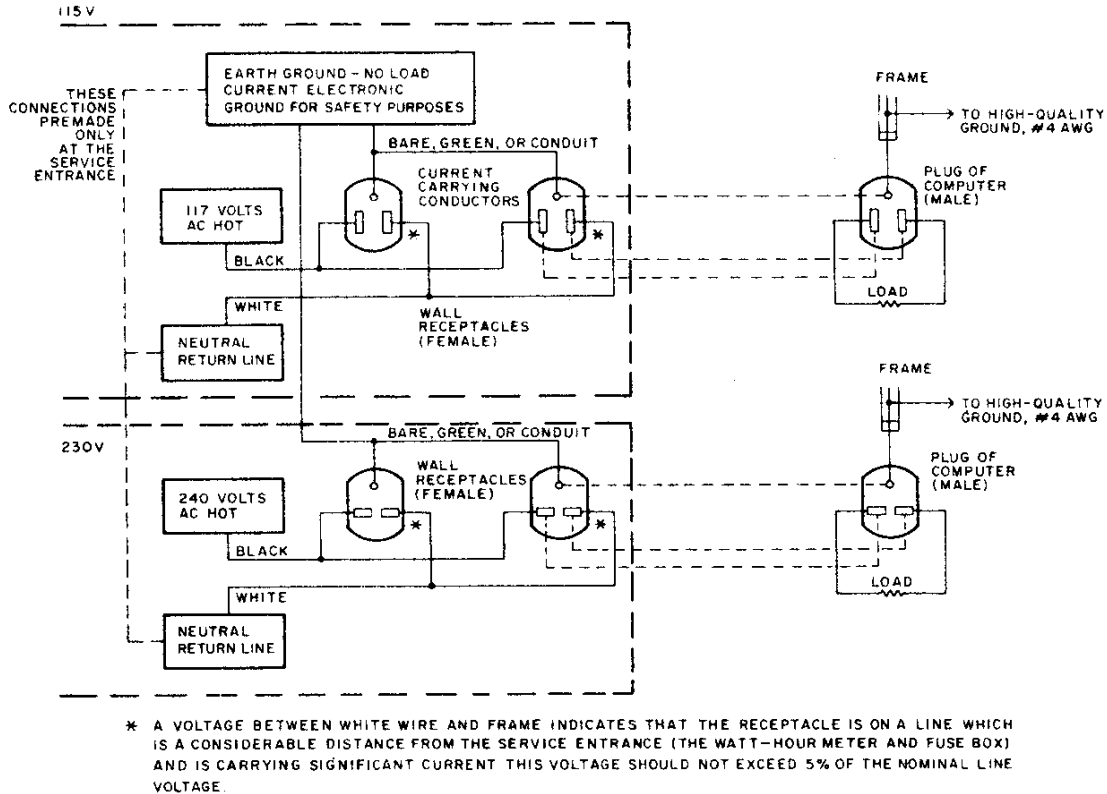

Figure 11-5 Wall Receptacle Wiring
**Power Installation**—The ac power requirements of the PDP-8/E computer are consistent with good electrical practice. The importance of correct electrical connections cannot be overstressed. Voltage readings must be made at the receptacle before the computer is plugged in, and careful checks must also be made after it is plugged in. It is an extremely wise precaution to take a voltage reading from the frame of the computer to the nearest grounded metal object before touching the computer. Figure 11-5 shows the recommended wall receptacle wiring.